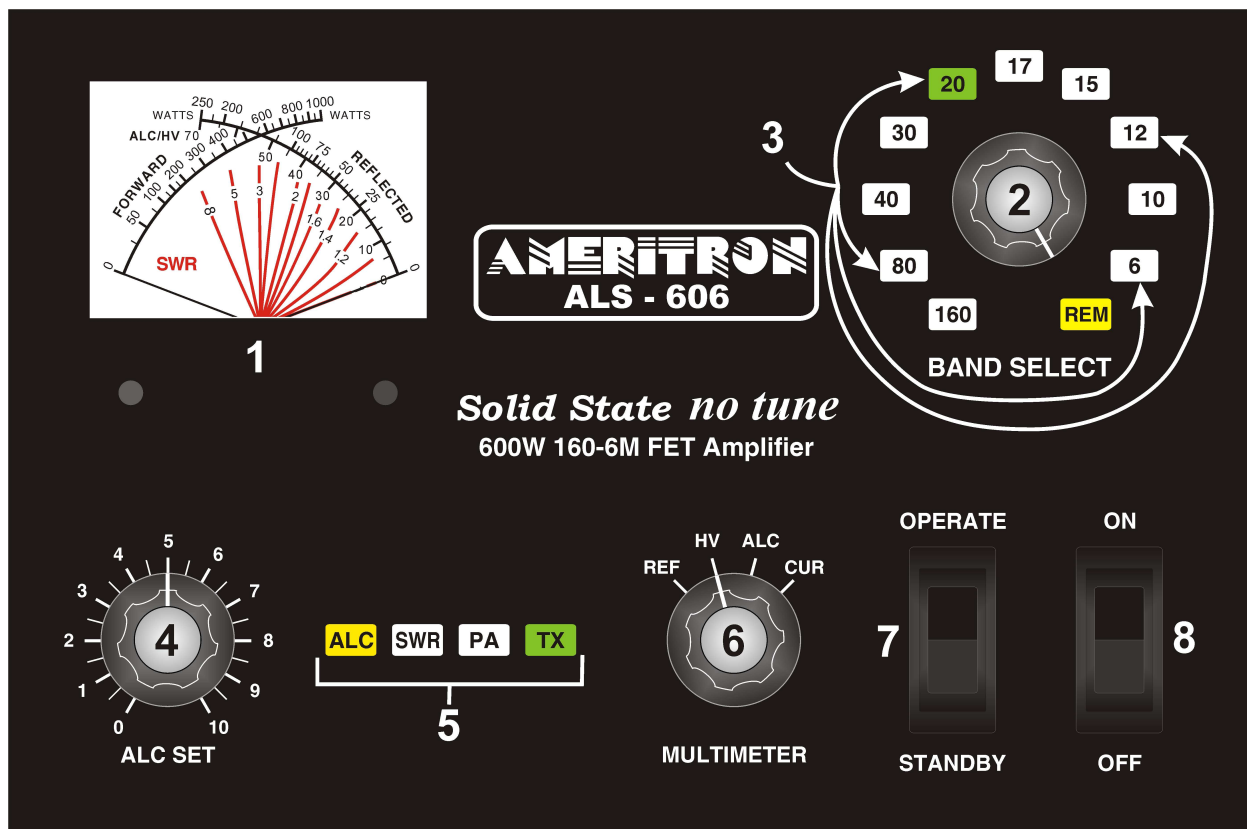

Figure 3 Front Panel
The meter's left scale-arc (Figure 3, #1) continuously indicates forward peak envelope power (PEP) output directly in kilowatts. It is 100 watts, or 0.1 kW, per meter scale picket. PEP has no fixed relationship to long-term average power except, for constant
Place the **MULTIMETER** switch (Figure 3, #6) in the **HV** position. The multimeter is the right-side scale on the panel meter (Figure 3, #1), and reads on the 0-70 right scale bottom. Find 50 on the scale. HV reading should be approximately 50 volts whenever the amplifier is ON. Any voltage above the Forward (KW) arc crossing is unsafe.
Place the **ALC SET** control (Figure 3, #4) full clockwise (10 on knob scale). This sets ALC to engage at maximum possible power, which effectively will disable the ALC for initial testing.
With the **STANDBY/OPERATE** switch (Figure 3, #7) on **STANDBY**, turn the power switch (ref 8) **ON**.
There might be a slightly delayed “click” from the power supply. **HV** (Figure 3, #1) should immediately rise to near full scale. The meter and the appropriate **BAND LED** (Figure 3, #3) should illuminate.
Rotate the **BAND** switch (Figure 3, #2 and 3) through all positions. The appropriate **BAND LED** will illuminate, band-filter relays will audibly switch when moving between 160 and 80 meters, 80 and 40 meters, 40 and 30 meters, 20 and 17meters, 15 and 12 meters, and between 10 and 6 meter selector positions. There should be no filter
Set the **BAND** switch (Figure 3, #2) to a band where you have a good 50-ohm high-power load connected.
Change the meter switch (Figure 3, #6) to **REF**. In this position, the multimeter indicates PEP reflected power.
The next objective is to have a steady unmodulated low-power carrier. With no modulation in the FM, AM, RTTY, or CW mode, and with the amplifier still on standby, adjust the exciter's power to about ten watts. Verify your radio is supplying reduced power, ideally around 10-20 watts carrier (not critical), and that VSWR of **the antenna system** or load is low. There should be almost no deflection on the reflected power scale (Figure 3, #1) with the **MULTIMETER** switch in the **REF** position. If the meter indicates noticeable reflected power, check the RF cables or antenna system.
- Place the amplifier in **OPERATE** position (Figure 3, #7). Be sure the amplifier **BAND SELECT** (Figure 3, #3) matches the band selected on the transceiver.
- Place the transmitter or transceiver into transmit in FM, AM, RTTY, or CW modes. The green **TX LED** (Figure 3, #5) should light. The Forward (KW) power scale (Figure 3, #1) should increase to very roughly ten times the initial exciter power reading. Reflected power should remain very low, and the PA current should increase on the right meter 0-70 scale (Figure 3, #1) when in the **Id** Multimeter position. Only the **TX** and **BAND SELECT LED's** should illuminate.